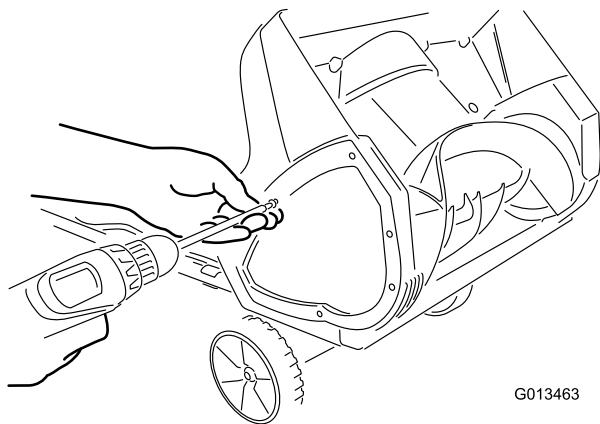

Figure 15
1. Remove the screws that secure the right side plate to the machine frame (Figure 15).